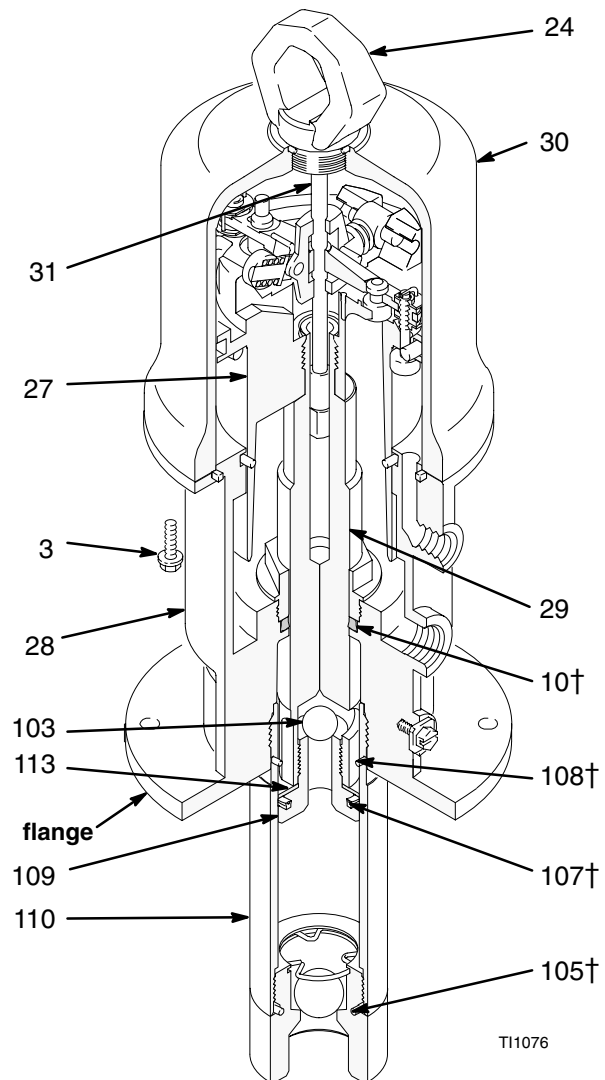

Fig. 3
3. Disconnect the hoses, remove the pump from its mounting, and clamp the air motor base (28) in a vise horizontally by closing the vice jaws on the flange.
4. Use a strap wrench on the displacement pump cylinder (110) to screw it out of the air motor base (28). See Fig. 3.
5. Remove the piston/valve seat (109) from the rod (29) with wrenches or with the vice and a wrench.
6. Remove the piston ball (103), u-cup packing (107†), and piston washer (113).
7. Remove the air motor base from the vice, and place the piston rod (29) flats in the vice with the air motor up.
8. Loosen the lift ring (24). Pull up the lift ring, grip the trip rod (31) with the padded pliers, and screw the lift ring off of the rod.
15. Grip the trip rod (31) with padded pliers, screw the lift ring (24) onto the trip rod, push the lift ring down, and screw it into the top of the cylinder.
16. Install the u-cup packing (107†) with the lips up, and place the piston washer (113) on the piston/valve seat (109). Make sure the lips of the u-cup packing face up. See Fig. 3.
17. Place the piston ball (103) in the piston rod (29).
18. Clean the threads of the piston/valve seat, Apply Loctite® to the threads, (109), and thread the assembly from Step 16 onto the piston rod (29).
19. Clamp the flats of the piston/valve seat (109) in a vice, and torque the piston rod (29) to the piston valve seat to 40 to 60 ft-lb (54 to 81 N.m).
20. Clamp the air motor base (28) in a vise horizontally by closing the vice jaws on the flange
21. Use a strap wrench to screw the displacement pump cylinder (110) to the air motor base (28), and torque to 95 to 105 ft-lb (129 to 142 N.m).